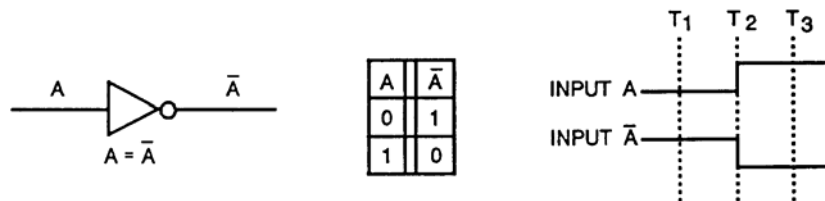

Figure Q-9. The NOT Function
d. NOT Function. The NOT function is performed by an inverter that performs the mathematical operation of negation. An inverter is an amplifier with an inverted output. Figure Q-9 shows the inverter.